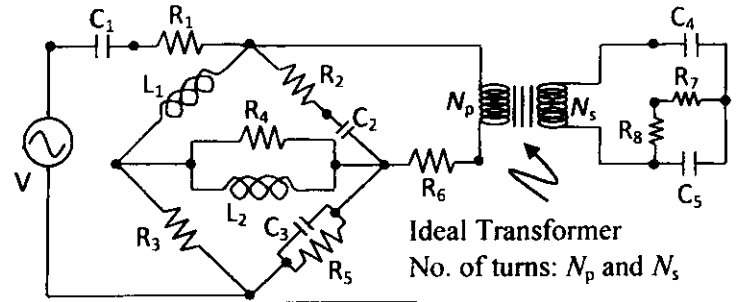

Figure 1
1. Draw a bond graph model of the electrical system shown in Figure 1. The numbers of turns in the primary and secondary sides of the ideal transformer are N_p and N_s , respectively. Use suitable grounds.